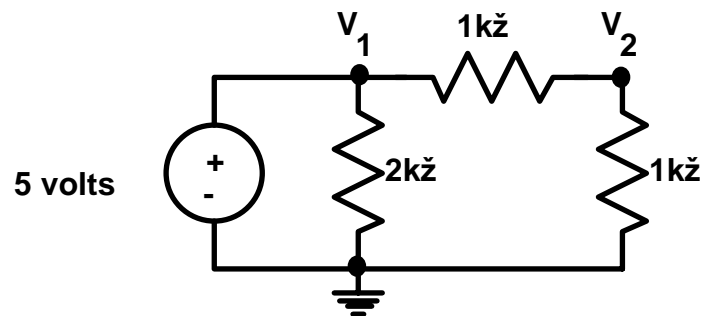

Figure 6.1
(I) Determine the node voltages and branch currents for the circuit given in Figure 6.1. If the actual resistance values are within $\pm 5\%$ of the indicated values, calculate the maximum and minimum node voltages due to the resistor tolerance.
- (1) Construct the circuit of Figure 6.1. Measure (with the multimeter) and record the resistance of each resistor you use. Use the multimeter to adjust the power supply. Measure and record *all* node voltages and branch currents.